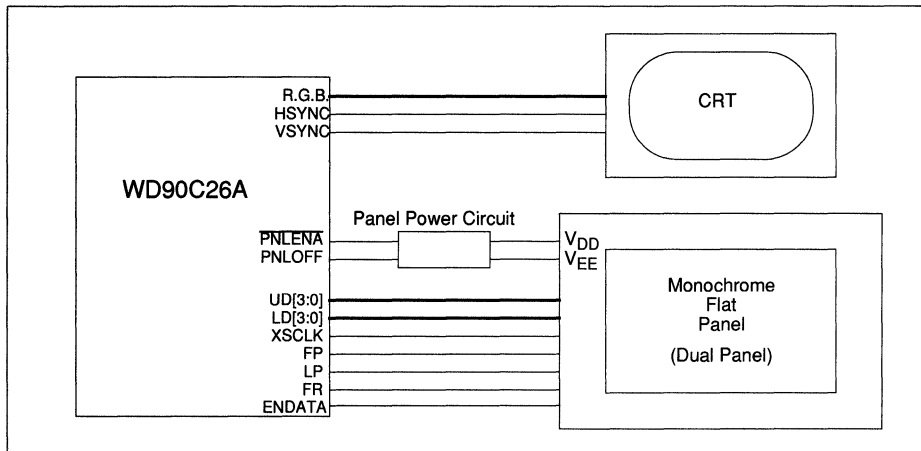

FIGURE 6-21 MONOCHROME LCD PANEL INTERFACE
- Monochrome LCD Panel Interface (Figure 6-21)